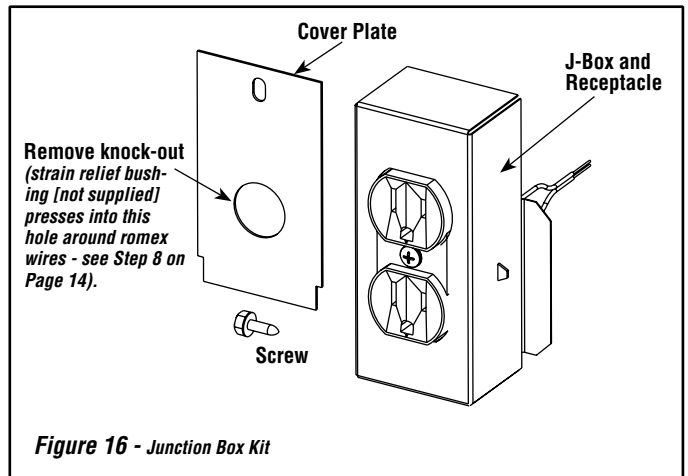

Figure 16 - Junction Box Kit
- Wires will need to be passed through the hole shown in **Figure 16**.
- An approved strain relief bushing (not supplied with the kit), is required to restrain the wires (see **Figure 16**).
Step 7. Locate the J-Box cover (provided in J-Box Kit). Remove the round knock-out (see **Figure 16**).